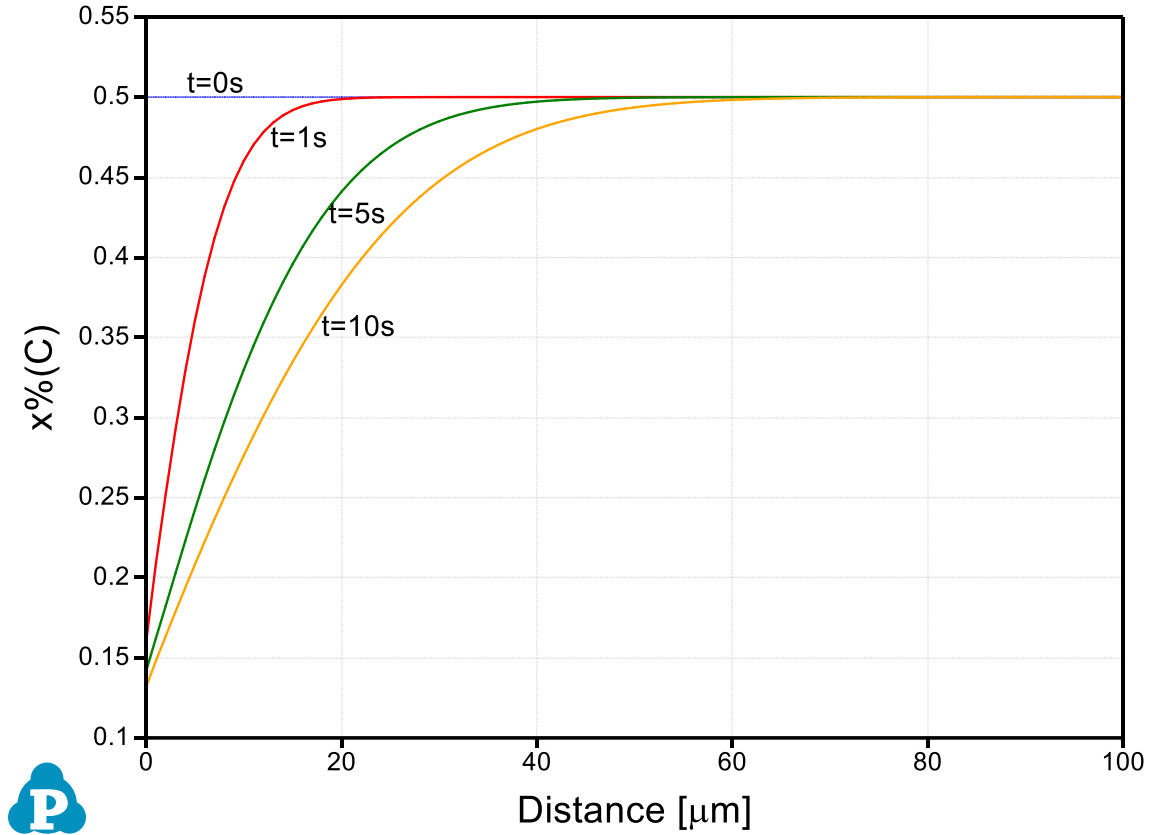

Figure 4.14.2: Simulation result of carbon composition profile
- Set the scale of the Y axis to be 0.1-0.6 (at%). Remove composition profile of Fe. The calculated composition profiles are displayed in Figure 4.14.2. Add text and change graph appearance following the procedure in Pandat User’s Guide 2.3.1;